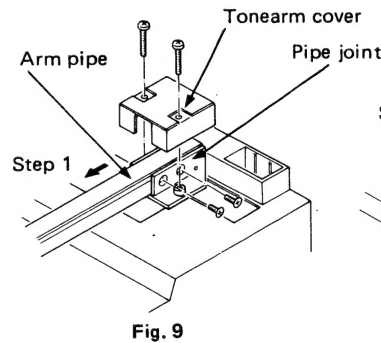
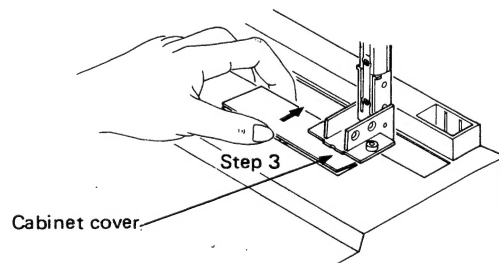

Fig. 9
Fig. 11
- (1) Remove the four foot mounting screws from the bottom board.
- (2) Remove the cord stopper of the signal cord.
- (3) Remove the tonearm cover and the two pan head screws in the base of the arm as shown in Fig. 9. In addition, be sure to cover the stylus with the stylus cover to protect it.
- (4) While holding the pipe joint by hand, pull the arm pipe slightly towards you (Step 1) and lift the arm pipe until it stops. (Step 2)
- (5) Remove the cabinet cover at the base of the arm. (Step 3) (Move out the cabinet cover to the rear while pressing down the area marked by an arrow as shown in Fig. 11.)
- (6) Set up the cabinet paying attention to the arm and rest sections.